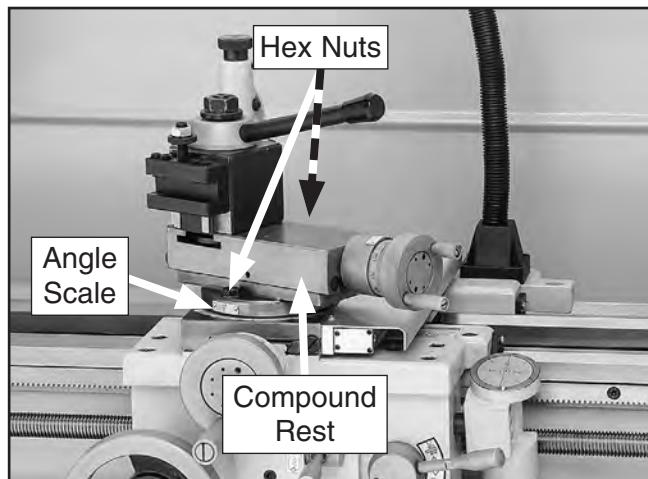

Figure 54. Compound rest adjustments.
1. Loosen (2) hex nuts at base of compound rest (see **Figure 54**).